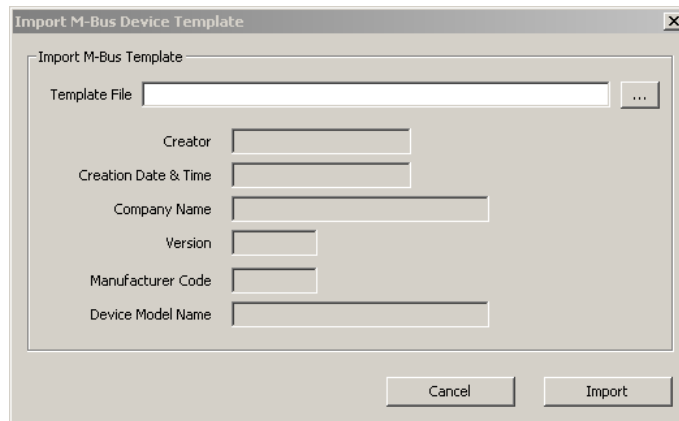

Figure 174 Import M-Bus Device dialog.
3. Click on the **Create From Template** button. This opens the **Import M-Bus Device Template** dialog shown in Figure 174.